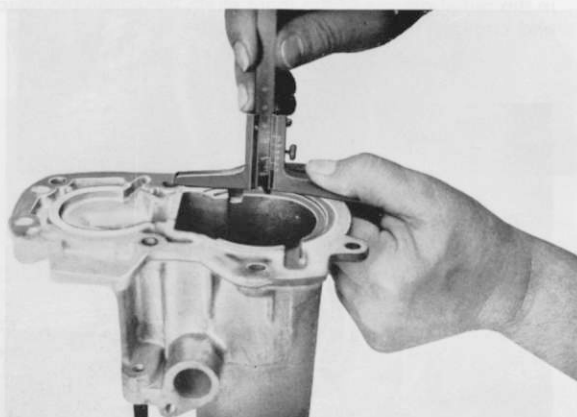

Fig. 57
4. Determine the depth of the mating bore in the speedo cover (Fig. 57). The difference of the 2 measurements less 0 to 0,1 mm play gives the thickness of the spacer (804) which must be placed in the bore of the speedo cover. The spacers are available in thicknesses of 0,4; 0,5; 0,6; 0,7; 0,8; 0,9 and 1,0 mm.
5. Press the needle bearing (810) and shaft seal (811) with hot bearing grease between sealing lip and dust lip up to the stop on the output bore of the speedo cover. With sealing lip to the inside of the gearbox.
6. Stick the spacer (804) for the mainshaft bearing with grease in the appropriate bore of the speedo cover. On layshafts with ball bearings (installed up to gearbox No. 1152) a spacer (302) 1,5 mm thick must be placed into the smaller bore of the speedo cover. The shim is equivalent to the difference in width between the ball bearing and the equivalent roller bearing. The installation of both bearing versions is carried out on the input side.